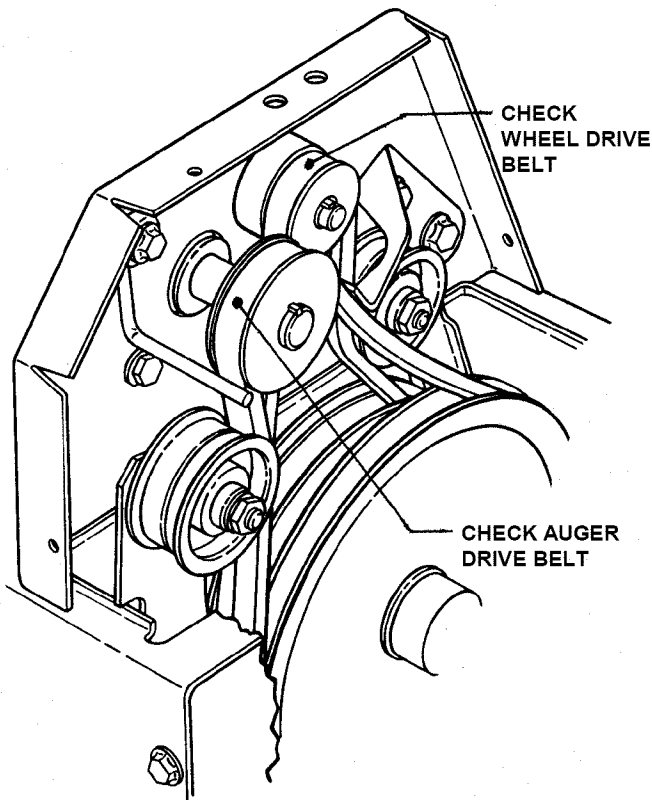

FIGURE 3.1
1. Visually check engine drive belt for cracking, fraying, severed or belt strands exposed. Replace belt before operating snow thrower. See Figure 3.1
1. Visually check wheel drive belt for cracking, fraying, severed or belt strands exposed. Replace belt before operating snow thrower. See Figure 3.1.